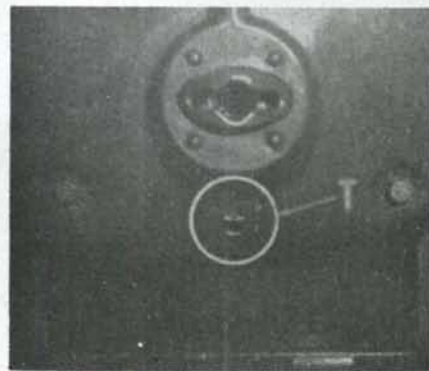

Fig. AC53G — Model G ignition timing mark, located on face of crankshaft pulley, is viewed through inspection port in hood support as shown.
140B. Delco-Remy model 1111708 distributor, of counter clockwise rotation (viewed from gear end) is used on this tractor. Set breaker points to .020 gap. To time the distributor to the engine, crank the engine until No. 1 piston (timing gear end) is on its compression stroke and the notched timing mark located on crankshaft pulley is centered in inspection hole, as shown at (T), in Fig. AC53G. Notched timing mark is located 3 degrees before TC.